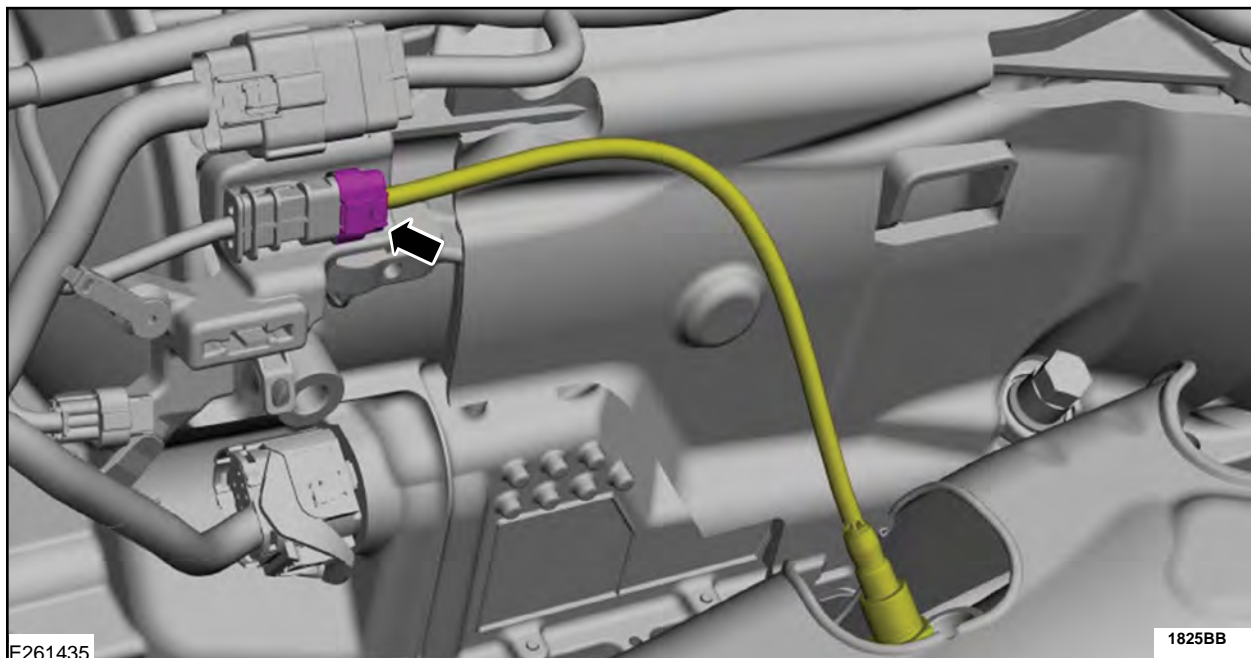

FIGURE 31
48. Disconnect the HO2S electrical connector. See Figure 31.